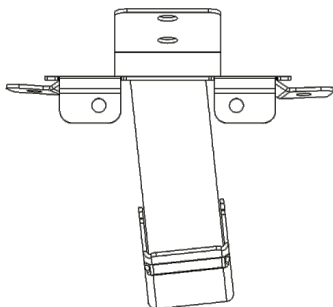

Figure 3
- a. Loosely assemble a Lower Visor Mount LVM to each of the 3 CBW's using (4) ¼-20x5/8 carriage bolts, locknuts, and flat washers.
- i. Identify the driver vs passenger Outer Bracket Weldments. These Outer Bracket Weldments attach to the truck such that their square tubes lean inward (toward the center of the truck) relative to their mounting plate. **Proper orientation (driver vs passenger) of these Outer Bracket Weldments is critical to the successful assembly of visor. (See figures 3 & 4)**